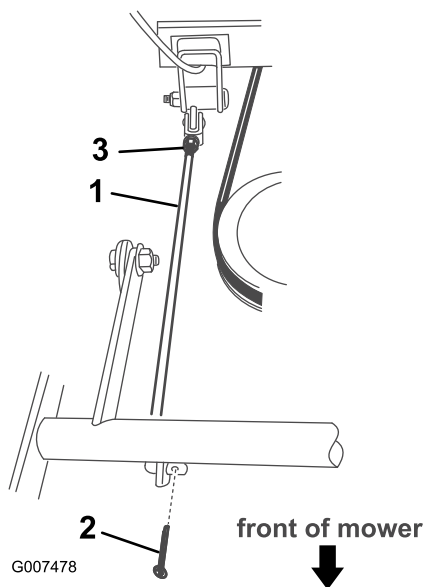

Figure 35
7. Remove the cotter pin at the front of the adjusting rod (Figure 35).
8. Loosen the nut at the rear of the adjusting rod (Figure 35).